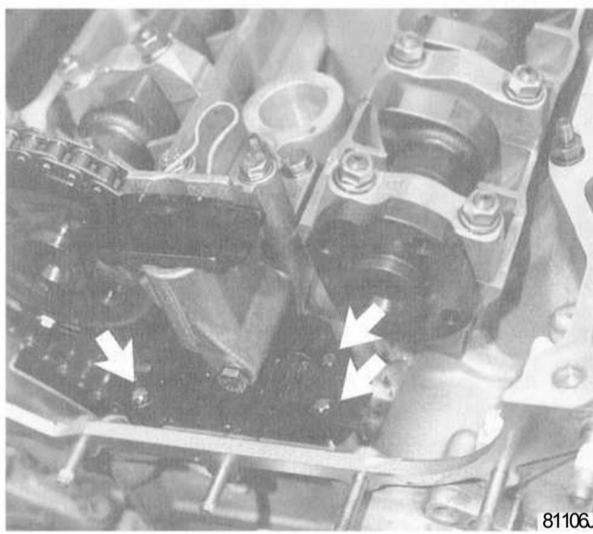

Fig. 24. Timing chain guide mounting bolts (arrows)
34. Remove the timing chain guide using a Torx E8 socket. See Fig. 24.